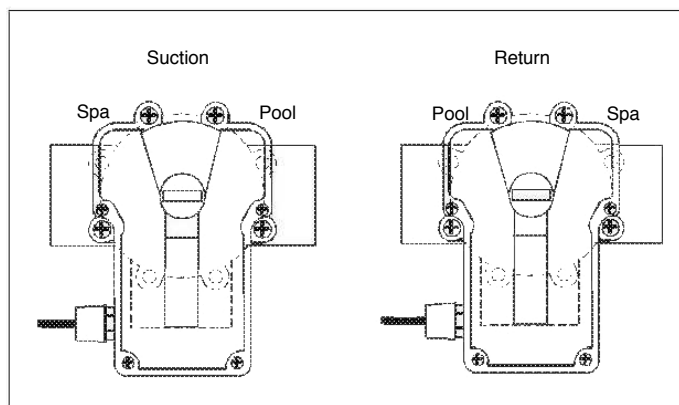
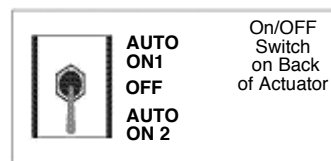

Figure 7. Synchronisation, Example.
Figure 8. Synchronisation, Toggle.
Figure 7 on the right represents the valves and actuators for a pool/spa combination. The valve on the left (spa on left and pool on right) is plumbed just the opposite as the one on the right (pool on left and spa on right). If the actuators are now activated one will turn to spa while the other is turning to pool. Changing the cam settings within the actuator will not correct this problem. To synchronise the actuators, flip the toggle switch at the rear of the actuator (which is out of sync) to the extreme opposite position. (See figure 8. Note: center position is OFF).
1. Move toggle switch at the rear of the Actuator from position 1 to position 2 (See figure 8) or vice versa until desired rotation is reached. Move toggle switch to center position to stop rotation of valve diverter.
2. Loosen the hand-locking knob (4) four full turns.
5. Tighten the locking knob on top of the handle and return toggle switch back to its original AUTO position (See figure 8).